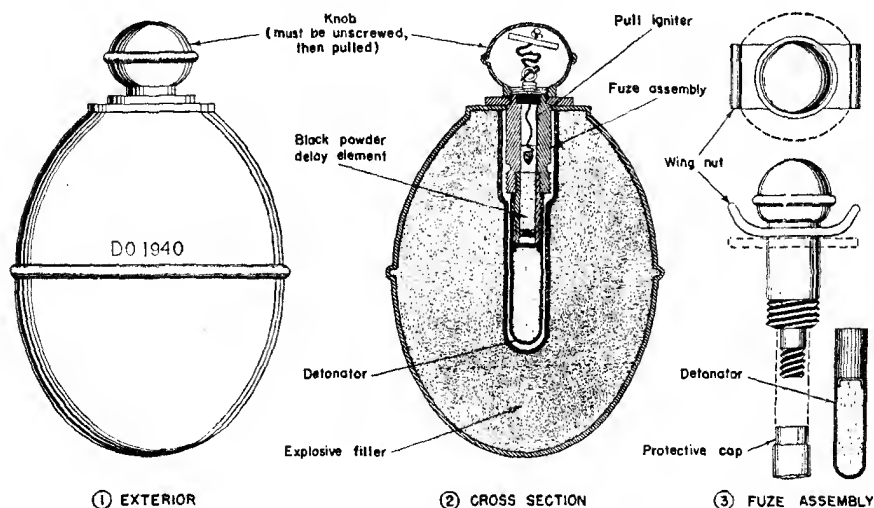

Figure 27.—Sketch of Eierhandgranate 39 (egg-type hand grenade, model 39).
(1) *General*.—This is a small thin-cased “offensive”-type grenade with a high proportion of a low-grade high explosive (see fig. 27). It is ignited by a friction-type igniter and a 4- to 5-second delay fuze.